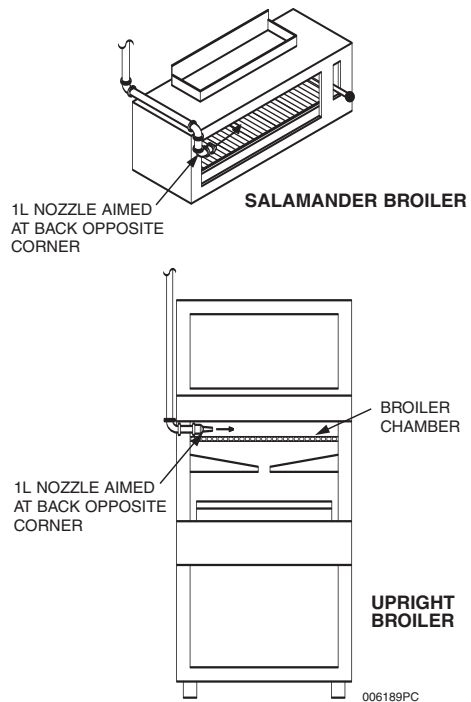

Figure 3-15a.
The 1L nozzle, Part No. 551026, is used for broiler protection. This nozzle is a one (1) flow nozzle. The nozzle must be located above the grate, at the front edge of the appliance, outside the broiling chamber, and pointed at the back opposite corner of the broiler chamber. The nozzle must be aimed parallel to the broiler grate surface. See **Figure 3-15a**.